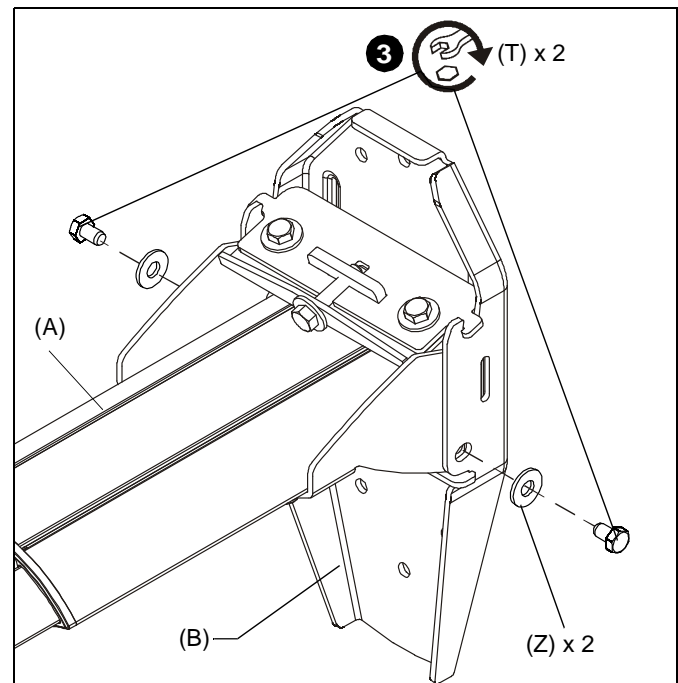

Figure 11
3. Fasten wall mount assembly (A) to wall bracket (B) using two 5/16-18 x 1/2" hex head cap screws (T) through two 5/16" washers (Z), the wall bracket and wall mount assembly. (See Figure 11)